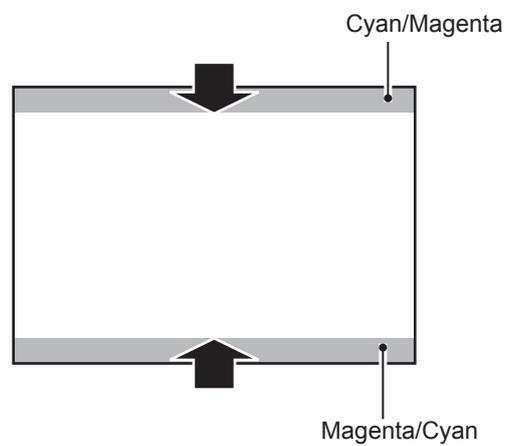

Fig.1-2
- 2) Insert a slot driver into the slot **D** and turn it to move the image vertically as shown in **Fig.1-2**,